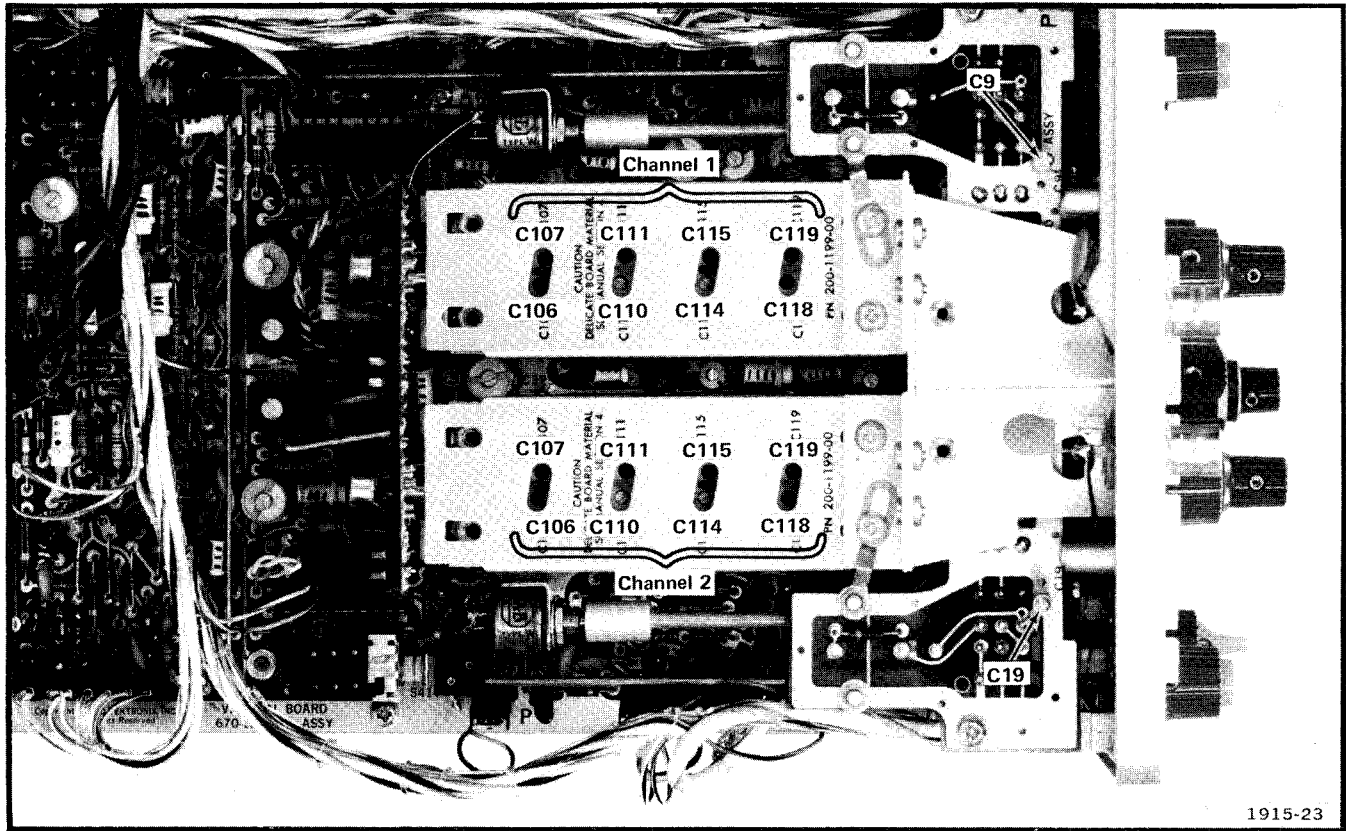

Fig. 5-5. Location of CH 1 and CH 2 Switch Compensation Adjustments.
- ADJUST—Channel 1 VOLTS/DIV switch compensation as given in Table 5-2. Adjust for optimum square corner and flat top. Remove the 10X attenuator and/or 50 Ω BNC termination as necessary to maintain a 5-division display amplitude. Fig. 5-5 shows the location of the variable compensation adjustments.
e. ADJUST—Channel 2 VOLTS/DIV switch compensation as given in Table 5-2. Adjust for optimum square corner and flat top. Remove the 10X attenuator and 50 Ω BNC termination as necessary to maintain a 5-division display amplitude. Fig. 5-5 shows the location of the variable compensation adjustments.